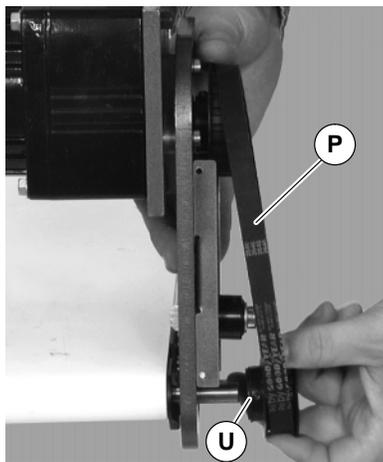

Figure 10
- Remove timing belt (P of Figure 10).
NOTE: If timing belt does not slide over pulley flange, loosen driven pulley set screws (U of Figure 10) and remove pulley with belt (P). For re-installation, see steps 5 and 6 beginning on page 5.